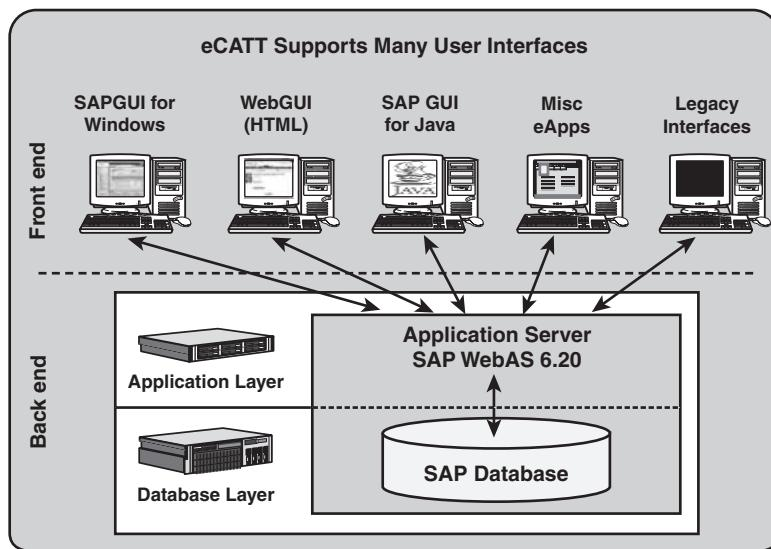

FIGURE 15.4 Consistent with its wide enterprise reach, eCATT supports multiple SAP graphical user interfaces.
- Support for various GUI interfaces, as seen in Figure 15.4.